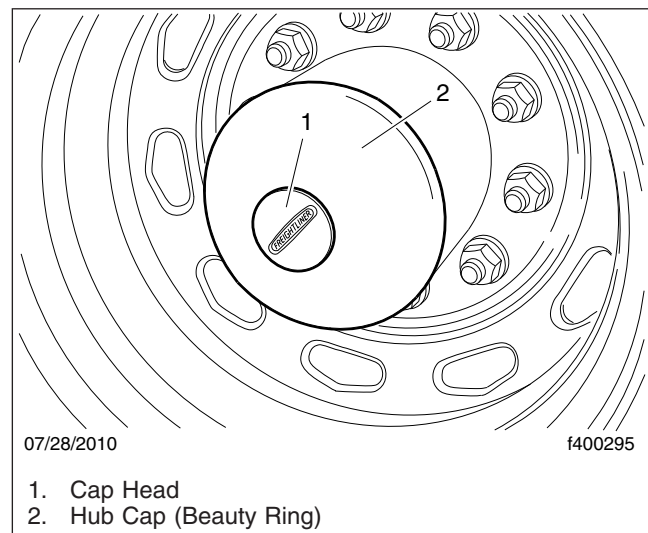

Fig. 4, Rear Axle Hub Cap Assembly
1. With the vehicle on a level surface, remove the hub cap (also referred to as a beauty ring). See Fig. 4.